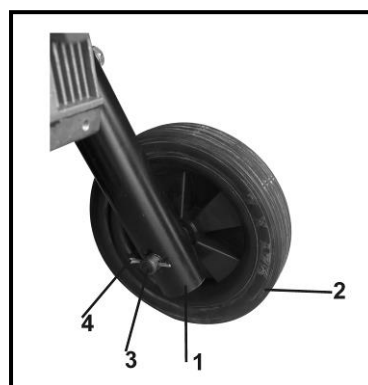

Fig. 2
1. Before operating the log splitter, it is necessary to fit the rolling wheel (2) Fig. 2, on supporting shaft (1) as shown. Insert the wheels on the shaft, block it using the washer (3), and fasten by the lock nut (4).